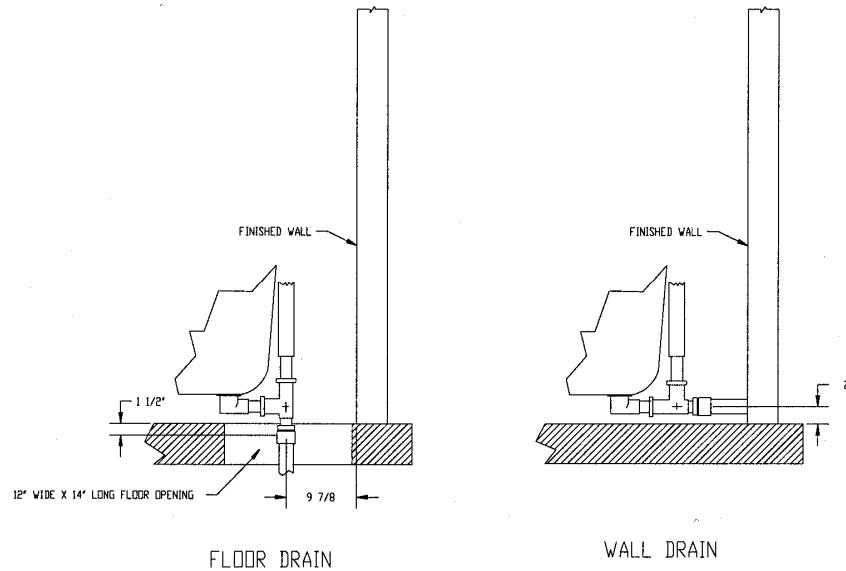

Fig. 11
36. The drain pipe is 2" nominal PVC pipe size (2 3/8" actual outside diameter). It can be connected from the horizontal position or pointed down (vertical position) if connecting to a floor drain pipe. See fig. 11
39. Place right and left arms on the wheel frame assembly as shown in figure 11. Secure the arms with 1/4-inch x 1 3/4-inch screws and acorn nuts. Tighten securely.